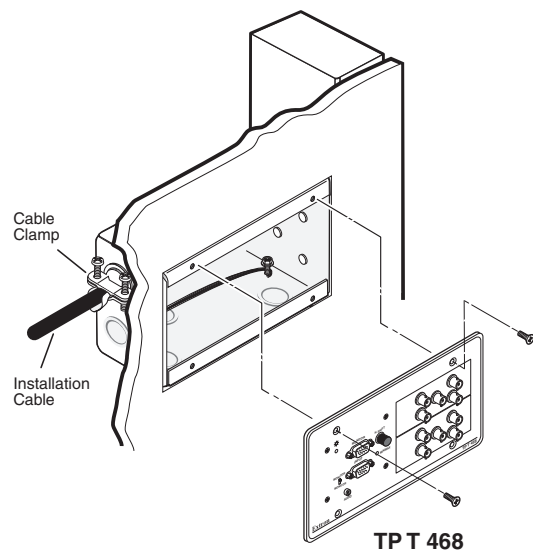

Figure 2-11 — Mounting the transmitter to the wall box
3. Mount the interface's faceplate to the mud ring or wall box with machine screws (figure 2-11 on the next page).